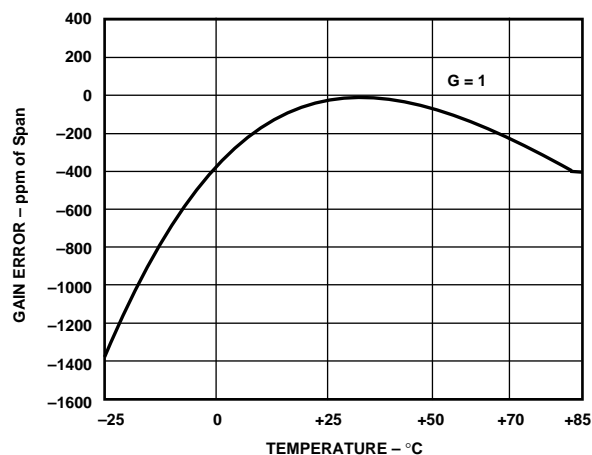

Figure 14. Gain vs. Temperature
**Gain vs. Temperature:** Figure 14 illustrates the AD210's gain vs. temperature performance. The gain versus temperature performance illustrated is for an AD210 configured as a unity gain amplifier.